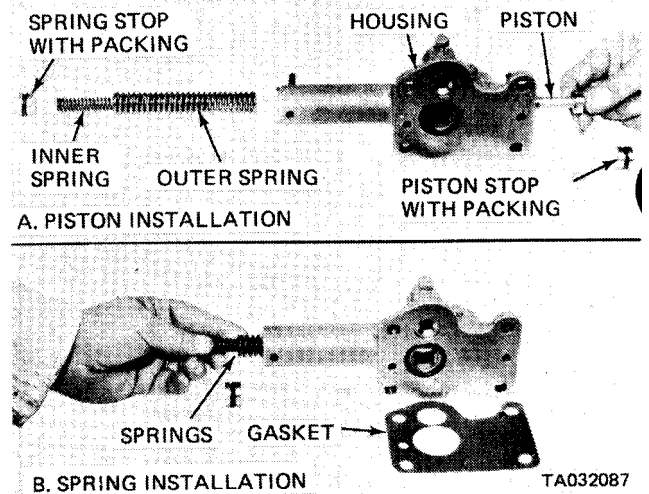

Figure 4-3. Regulator valve assembly, reassembly.
(1) Immerse all parts in clean transmission oil prior to reassembly (refer to current lubrication order).
(2) Install piston in housing (fig. 4-3, A) and install new packing on piston stop. Install piston stop with packing in housing and secure with piston stop pin (fig. 4-3, A).
(3) Install inner and outer springs in housing (fig. 4-3, B).
(4) Install new packing on spring stop. Insert spring stop in housing, depress spring stop and secure with stop pin.